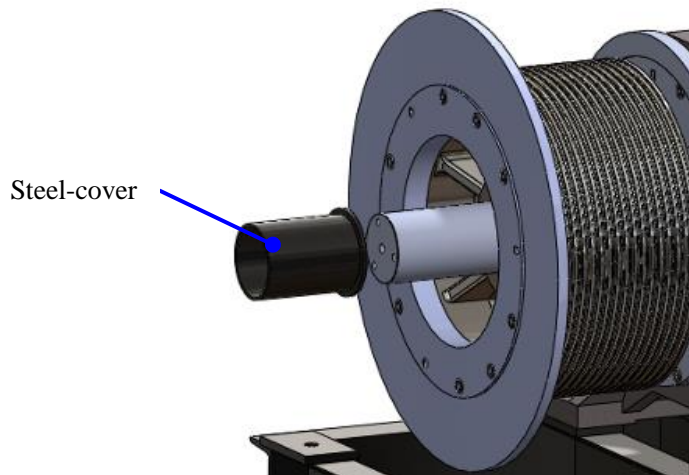

Figure 60: Remove Steel cover
11. Take off the steel-cover. See Figure 60.